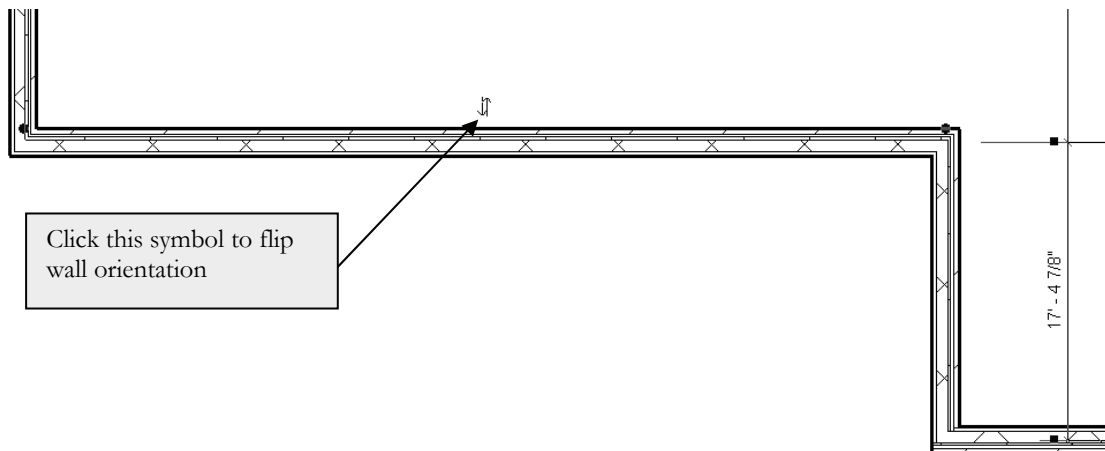

FIGURE 3-2.9 Selected Wall; notice some walls have the brick on the interior
20. Select **Modify** (or press **Esc**); select a wall. You will see a symbol appear that allows you to flip the wall orientation by clicking on that symbol (Figure 3-2.9).